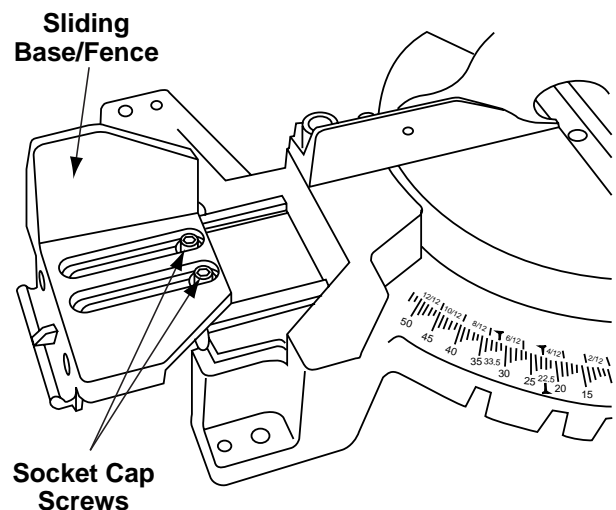

Figure 26. Sliding Base/Fence
2. Loosen two (2) socket cap screws in sliding base channel (Figure 26).